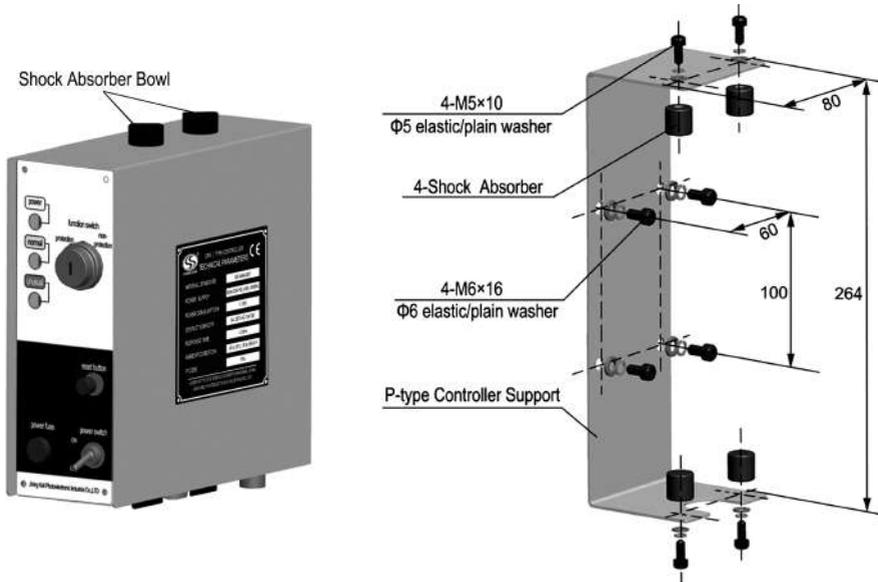

Fig2.2 CPS I type controller and its support
2. According to the mounting dimensions of CPS I type controller support, fix the support well, as shown in Fig2.2.